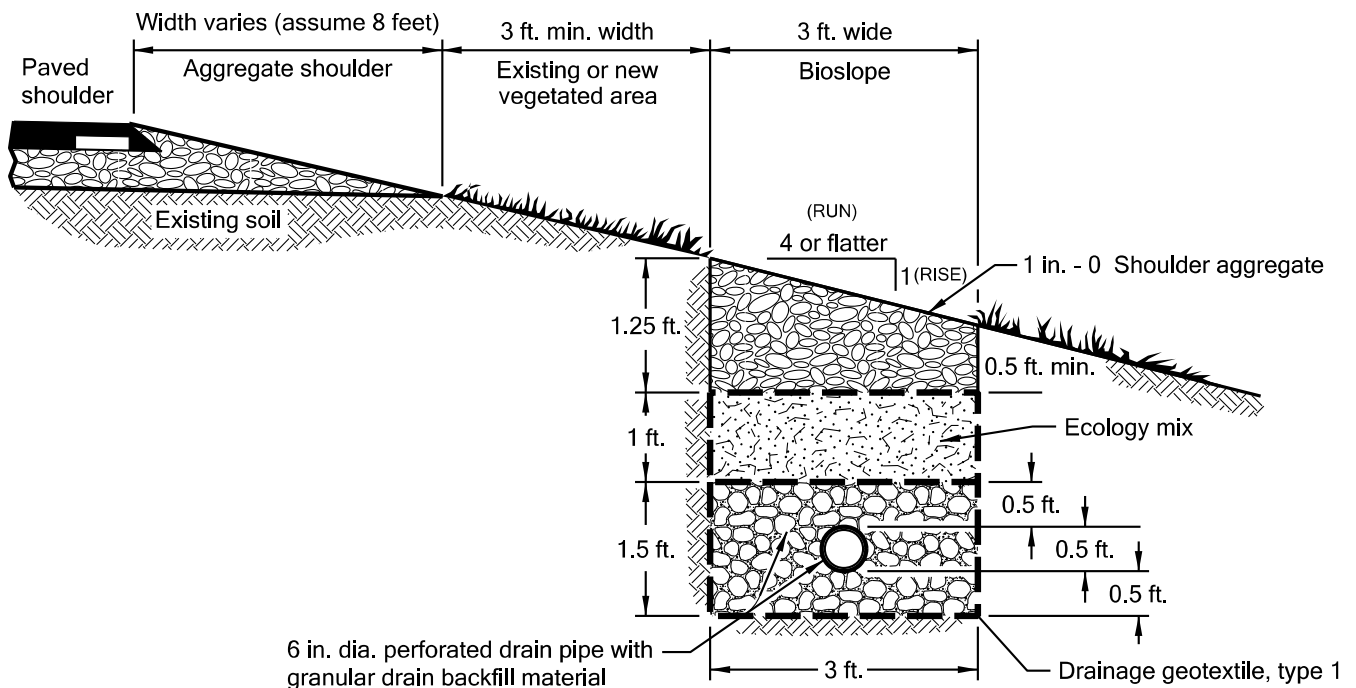

Figure 3: Bioslope Section (Typical)
**The facility is a modified version of the typical bioslope (Figure 3).** The main difference is the exclusion of a vegetation area between the edge of pavement and the bioslope section. This was developed as a result of right of way limitations, and in some locations, the prohibitive costs of moving adjacent high voltage line and frontage road.